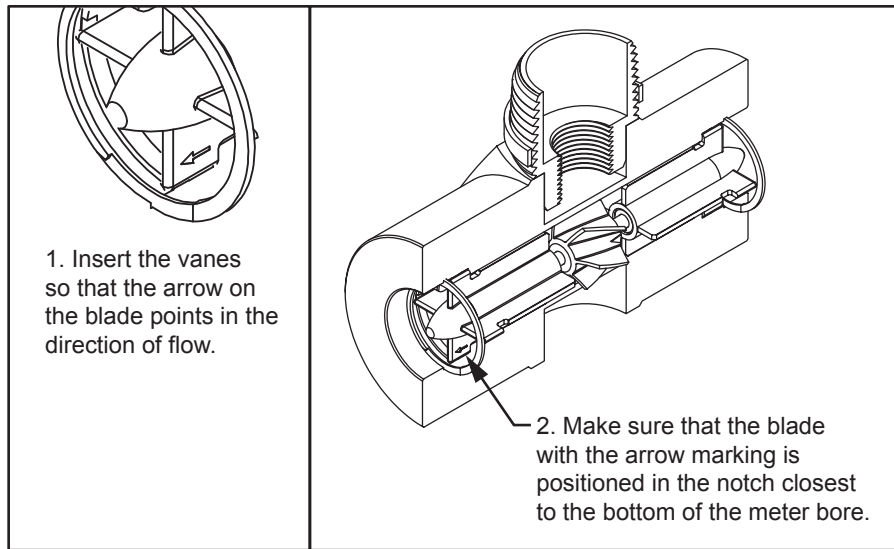

Figure 6—Positioning of vanes
1. Insert a vane into the meter body, ensuring that the flow arrow is pointing in the direction of flow and the marked blade is positioned at the bottom of the bore (Figure 6, page 18). The vane should fit snugly but should not require excessive force to install.